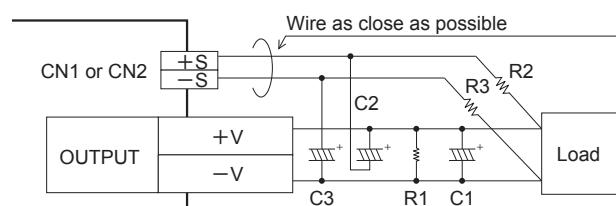

Fig. 1.4 When using remote sensing function
- Please see Fig. 1.4 if you use the remote sensing function.
- ① Wire carefully. When a connection of a load line becomes loose (due to such factors as loose screw), the load current flows to the sensing line and internal circuits of the power supply may be damaged.
- ② Use a sufficiently thick wire to connect between the power supply and the load and keep the line drop at 0.3V or below.
- ③ Use a twisted pair wire or a shielded wire as the sensing line.
- ④ Do not draw the output current from +S or -S.
- ⑤ When the remote sensing function is used, the output voltage of the power supply may show an oscillating waveform or the output voltage may dramatically fluctuate because of an impedance of wiring and load conditions.